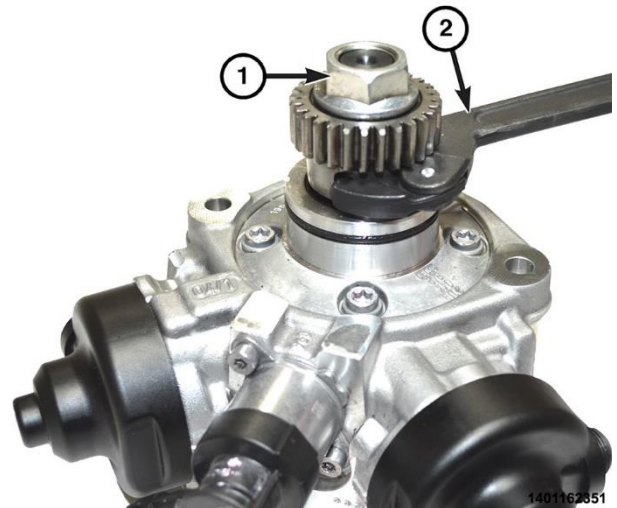

Figure 196 – Gear Nut Removal
- 40. Using a commercially available spanner wrench such as Blue Point APS35IB, Snap-on APS351C or equivalent to hold fuel injection pump gear. Remove the fuel injection pump gear nut (Figure 196).